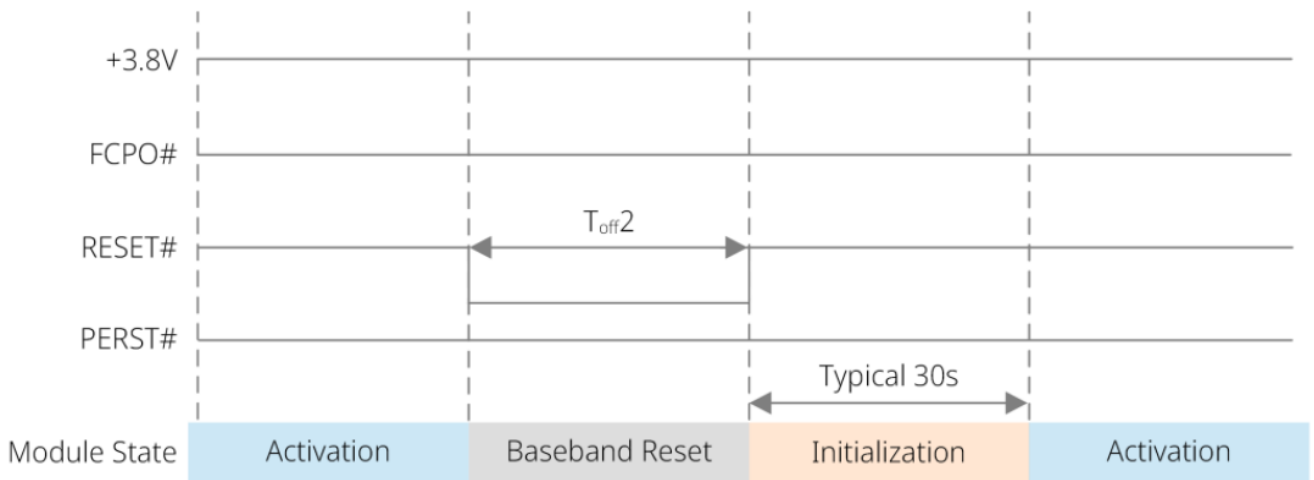

Figure 3-8 Reset timing 1st
- Reset timing 1st in Figure 3-8.